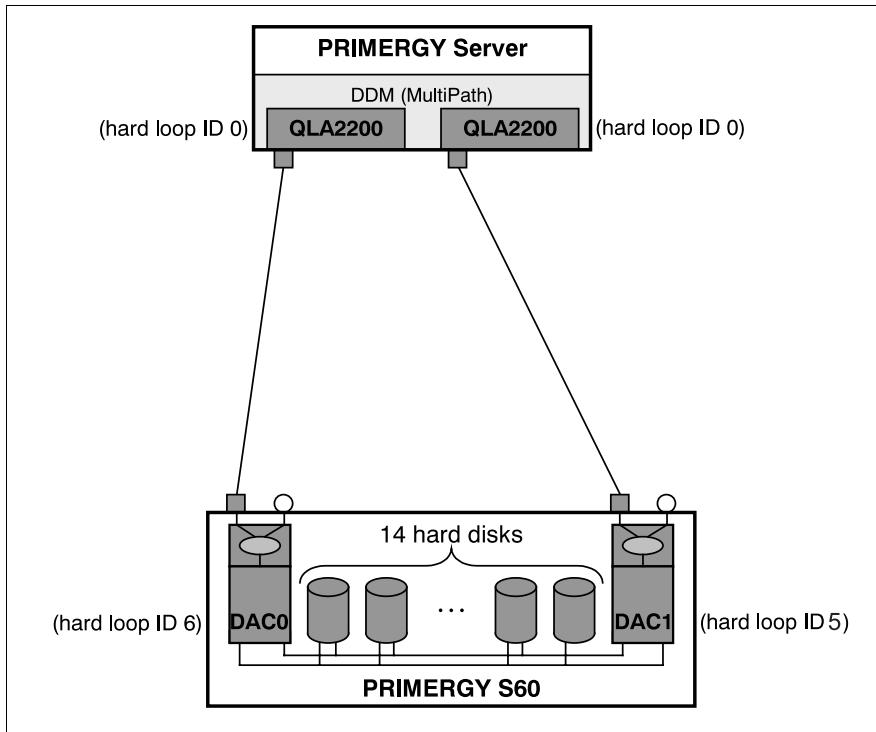

Figure 17: Path Redundancy with Dual FFx-RAID Controller
- Loop IDs (see figure 17 on page 23)